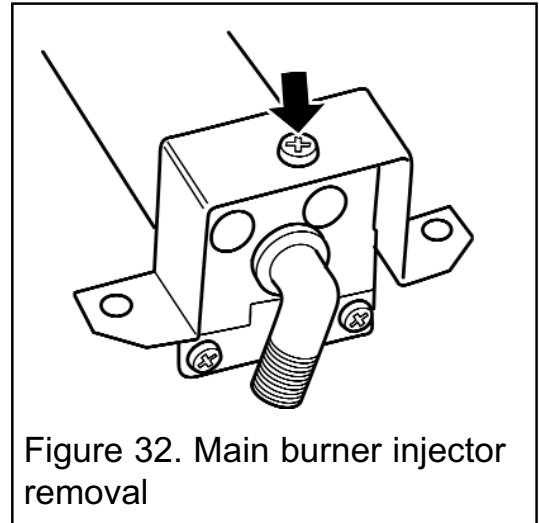

Figure 32. Main burner injector removal
(See figure 32).
2. Remove the burner clamping screw (See figure 32).